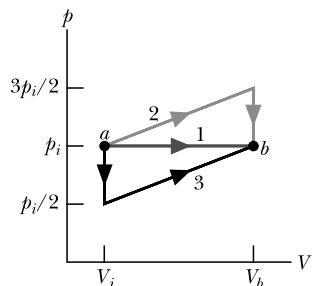

Figure 18.34 Problem 81.
- 81 SSM** A sample of gas undergoes a transition from an initial state a to a final state b by three different paths (processes), as shown in the p – V diagram in Fig. 18.34, where $V_b = 5.00V_i$. The energy transferred to the gas as heat in process 1 is $10p_iV_i$. In terms of p_iV_i , what are (a) the energy transferred to the gas as heat in process 2 and (b) the change in internal energy that the gas undergoes in process 3?